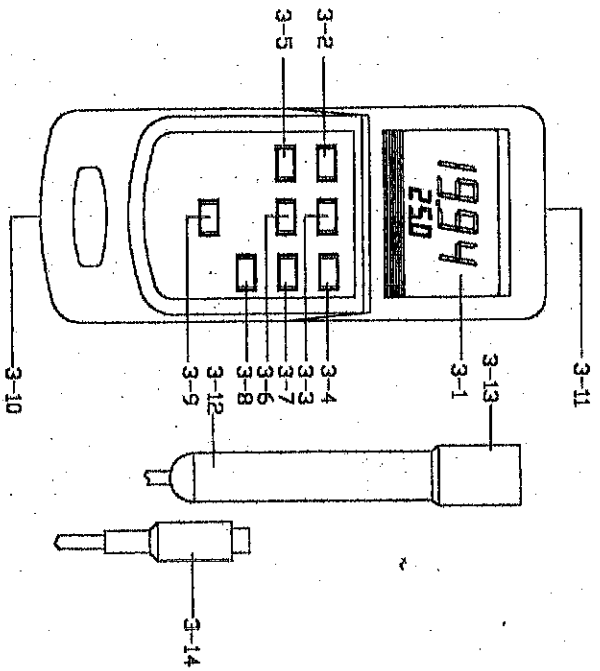

Fig. 1
- (1) Push the "Power Off/On Button" (3-2, Fig. 1) to power the instrument.
- (2) The instrument will default to 2% per °C Temperature Compensation factor. The meter has built-in Automatic Temperature Compensation adjustable between 0 to 5% per °C.
- a. Push the "Temp. Compensation Button" (3-9, Fig. 1) , the display will show
- b. Push the "Factor Adjust Button" (3-7, Fig. 1) to select the desired compensation factor. The value will increment in steps of 0.1 % per °C.
- c. Once the desired value is reached, push the "Temp. Compensation Button" (3-9, Fig. 1) to set the new value.
- (3) Select the applicable range, using the "Range Select Button" (3-8, Fig. 1).
(4) Immerse the "Conductivity Electrode" (3-13, Fig. 1) into the solution, up to the immersion level.
(5) During the measurement, the lower LCD Display will show the temperature of the solution.
* Push the "C/F Button" (3-4, Fig. 1) to change the temperature display unit from "°C to °F" or "°F to °C".
* During measurement, pushing the "Data Hold Button" (3-3, Fig. 1) will hold the display values & the LCD will show the "D.H" symbol.
* The DATA RECORD function displays the maximum, minimum and average readings. To start the DATA RECORD function, press the "Record Button" (3-5, Fig. 1) once. "REC" symbol will appear on the LCD display.
- (a) Push the "CALL Button" (3-6, Fig. 1) once, then the "Max" symbol with the maximum values recorded will appear on the LCD display.
(d) To de-activate the Data Record function, Press the "Record Button" (3-5, Fig. 1) once again. All associated annunciators will disappear from the display.
To de-activate this feature, Select the memory record function during measurement, by pressing the "RECORD" button(3-6, Fig.1).
- (1) Prepare a " 1.413 mS Calibration Solution "
- (2) Slide the " Range Select Switch " (3-8, Fig. 1) to "2 mS" position.
- (3) Immerse the " Conductivity Electrode " (3-13, Fig. 1) into the solution up to the immersion level.
- (1) When the left corner of LCD display show "LBT", it is necessary to replace the battery. However, in-spec measurement may still be made for several hours after low battery indicator appears before the instrument become inaccurate.
- (2) Slide the " Battery Cover " (3-10, Fig. 1) away from the instrument and remove the battery.
- (3) Install a 9V battery(heavy duty type) and replace the cover.